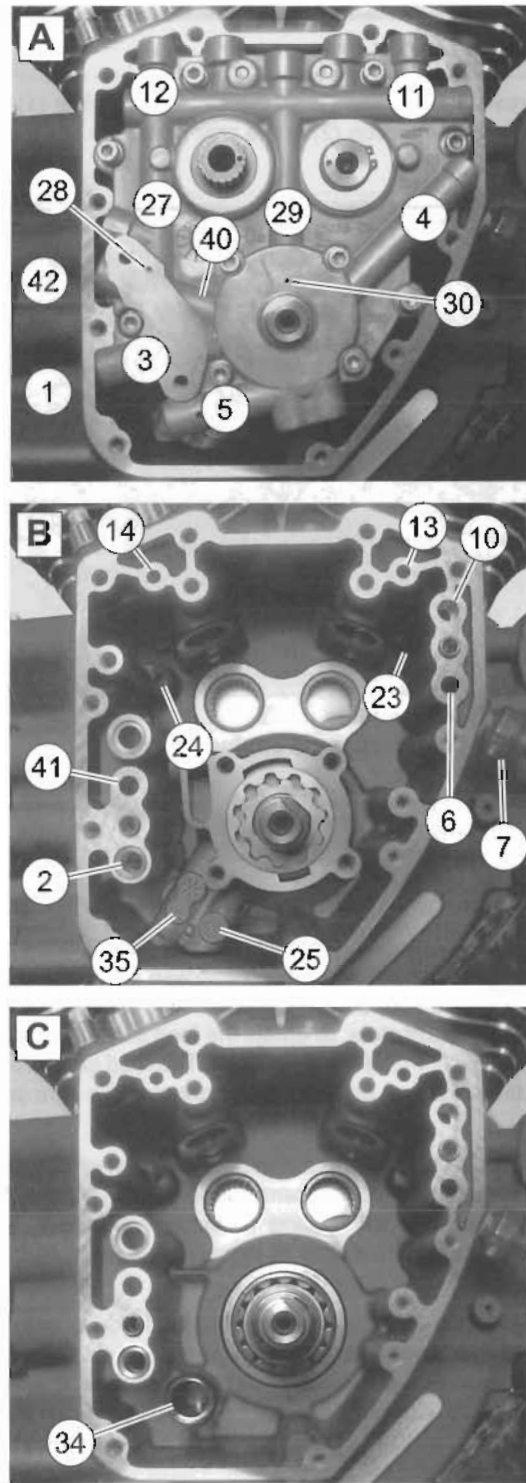

Figure 3-4. Engine Oil Flow: Cam Support Plate/Right Crankcase Half
- Cam support plate oil flow is shown in Figure 3-4.